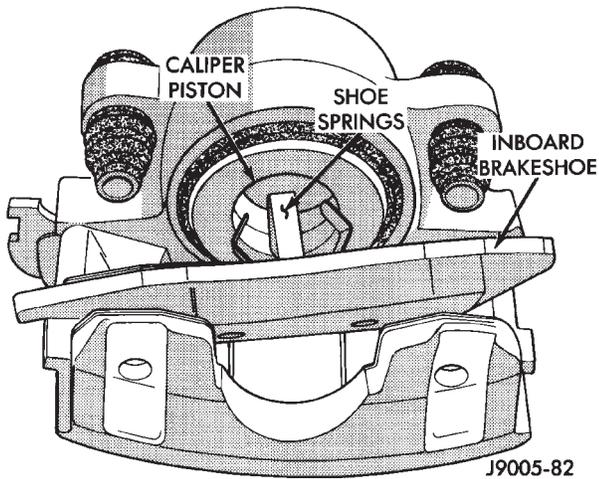

Fig. 34 Inboard Brake Shoe Removal
- (5) Grasp ends of inboard shoe and tilt shoe outward to release springs from caliper piston (Fig. 34) and remove shoe from caliper.